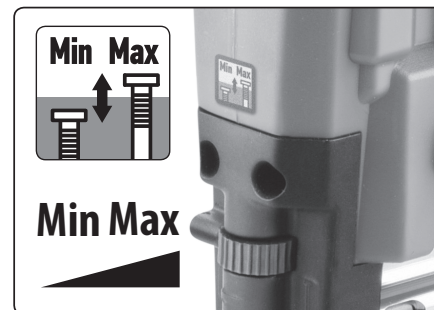

Fig. 6, impact force adjustment
- Turn the adjustment knob (fig. 1, position 14) to set the impact force (fig. 6) relative to the length of the nail/staple and the hardness of the material (further information in chapter V). Find the optimal impact force setting by performing test shots on a sample of the material that you will subsequently be working with.